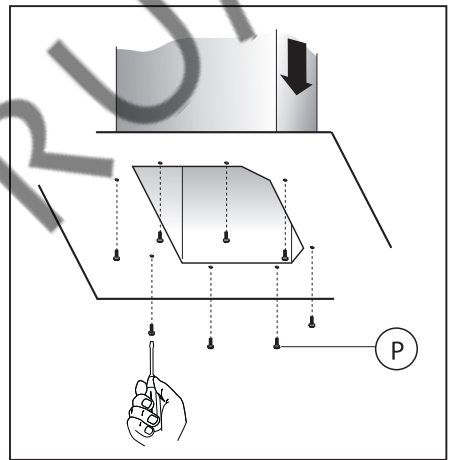

Fig.14
- If necessary, fix the lower duct to the hood from the inside, using the screws **P** (Fig.14). Re-locate the filters in their seat.